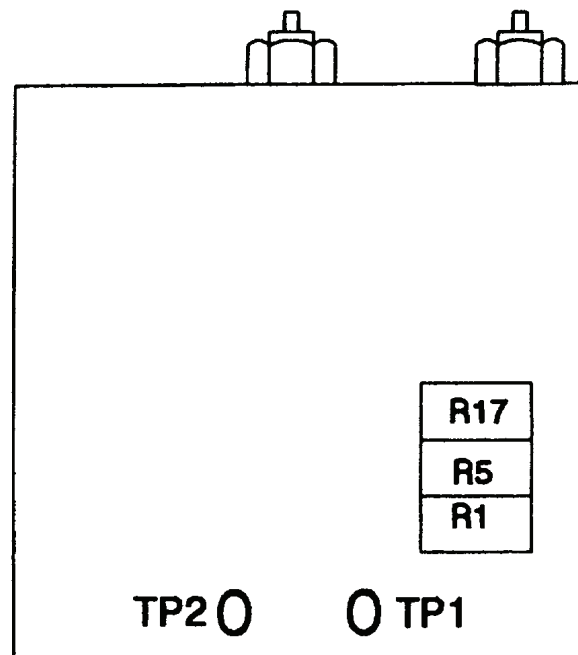

Figure 10. Probe control and function switch board.
(1) Connect multimeter between TP1 (+) and TP2 (-) probe control and function switch board (fig. 10). If multimeter does not indicate between 7.255 and 7.295 mV dc, adjust R1 (fig 10) for 7.275 mV dc.
(2) Adjust R5 (fig. 10) for stabilization temperature of 100 °C, with **PROBE POWER** lamp flashing.
(3) Adjust R17 (fig. 10) for stabilization temperature of 600 °C, with **PROBE POWER** lamp flashing.